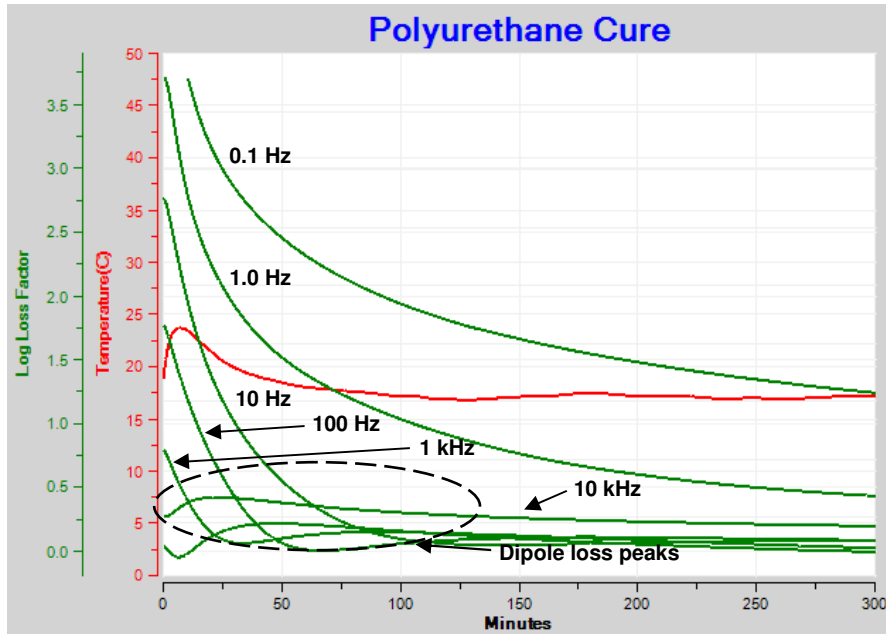

Figure 12-8
- Do look at loss factor, as in Figure 12-8, when studying the dipole response